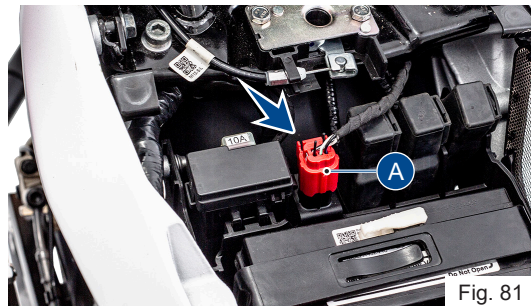

Fig. 81
- Gently pull out connector along with its cap from its location by releasing the lock (A) (ref. Fig. 81).